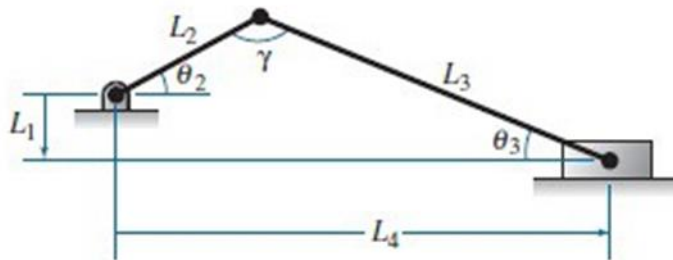

Fig. 1
2. In the offset slider crank mechanism shown in Fig. 1 below the constrained path of the pin on the slider does not extend through the center of rotation of the crank. Given the lengths L_1 , L_2 and L_3 and the crank angle θ_2 , the position of the slider L_4 and the interior joint angles θ_3 and γ could be determined by the equations of $f(L_1, L_2, L_3, \theta_2)$. Please derive these equations. (10%)